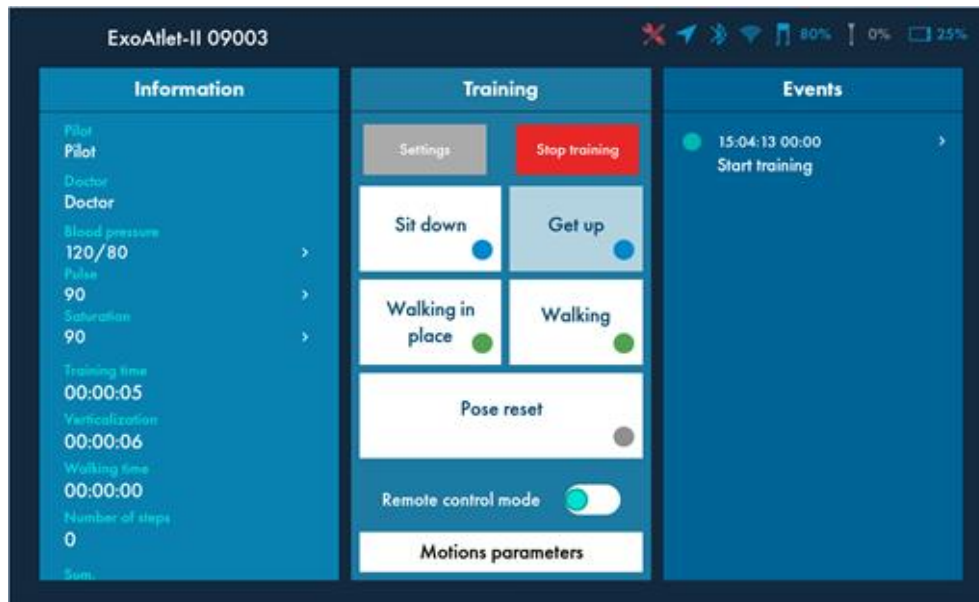

Figure 55
- ③ Standing pose – the pose when limbs of the exoskeleton are in standard standing position. In this pose motions “Sit down” (more details in 8.2.2.3.1), “Walking in place” (more details in 8.2.2.3.4), “Walking” (more details in 8.2.2.3.3) and “Pose reset” (more details in 8.2.2.3.5) are available (see Figure 55).